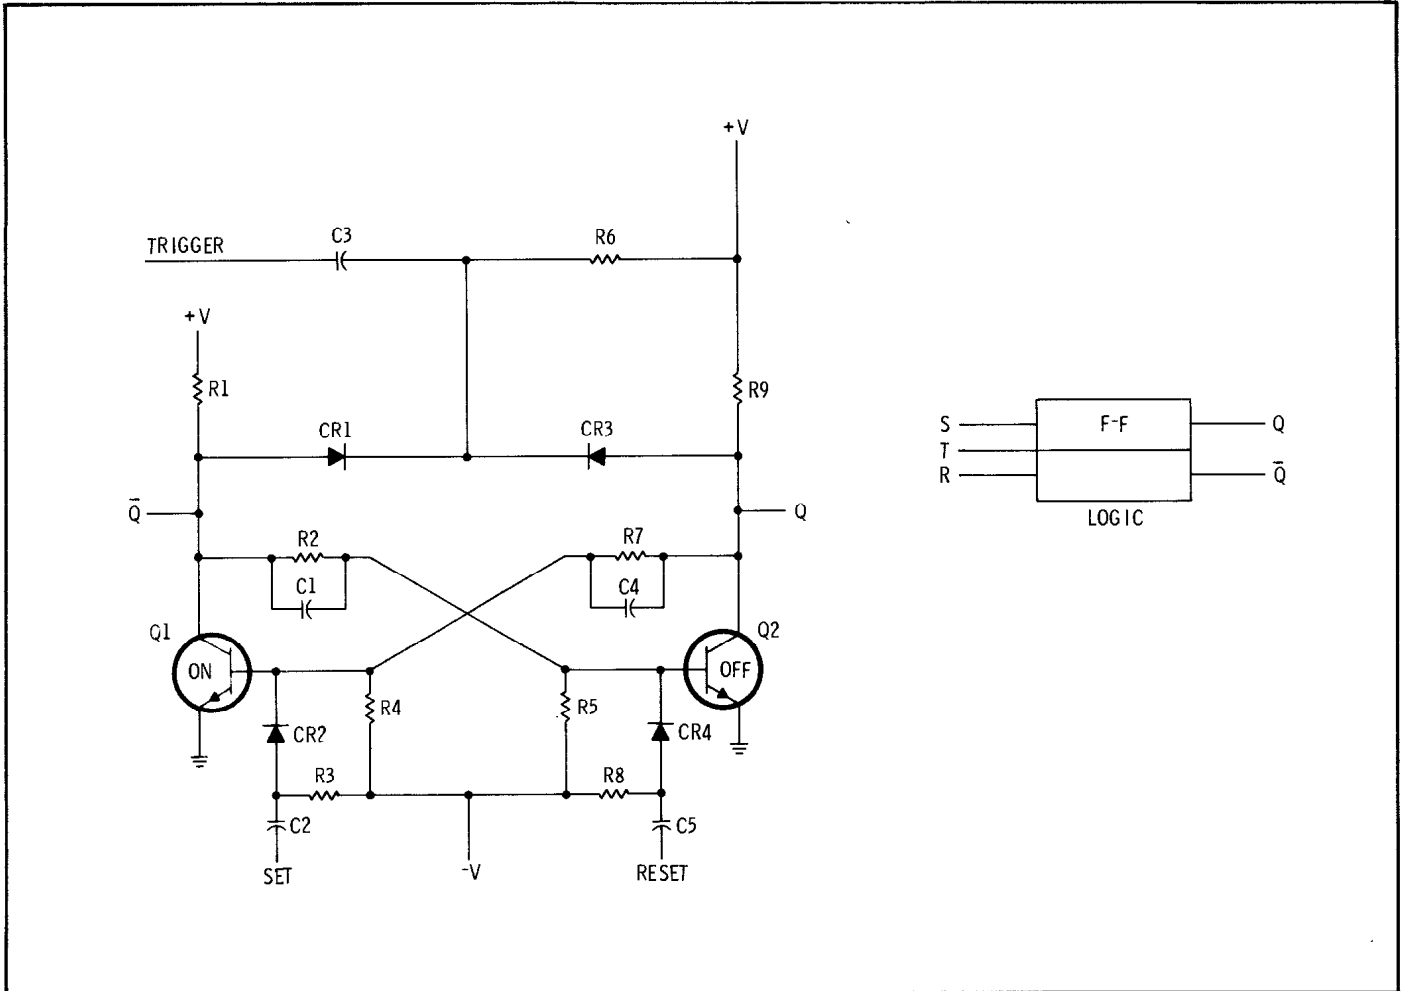

Figure 8-8. RST Flip-Flop
**8-39. RST FLIP-FLOP.** Figure 8-8 illustrates a RST flip-flop which is a combination of reset-set and triggered flip-flops. In the circuit shown, negative trigger pulses will make the flip-flop change states. Positive pulses are required for the set and reset inputs. A positive set input will cause  $\bar{Q}$  to go high and a positive reset pulse will cause Q to go high.